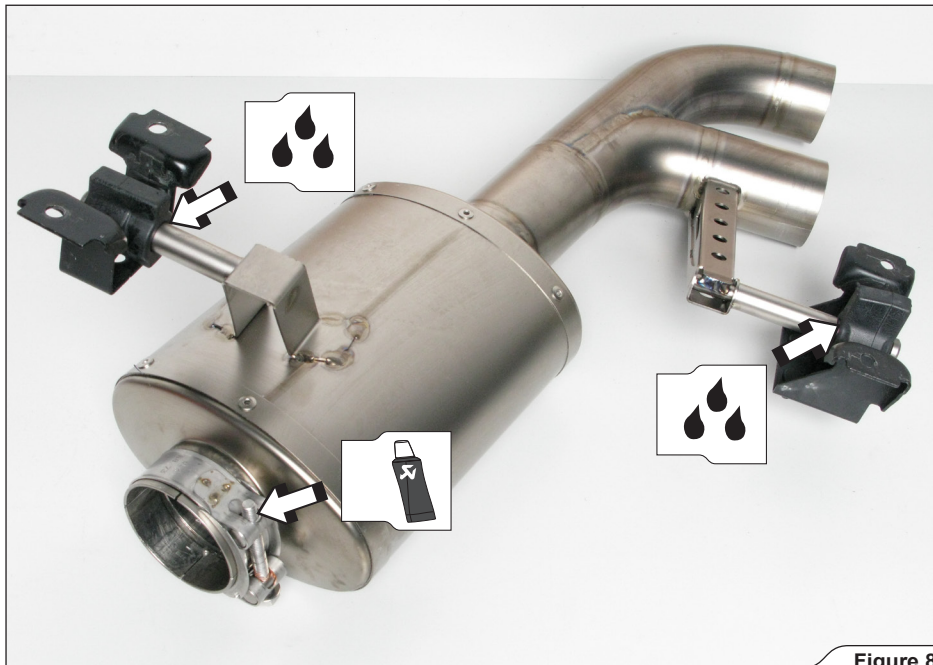

Figure 8
1. Attach the additional metal clamps and original rubber brackets to Akrapovič mufflers and link pipe, as shown (Figure 8, 9, 10).